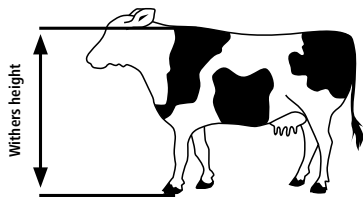

Figure 3
**Mounting height: see Fig. 3 + 4**